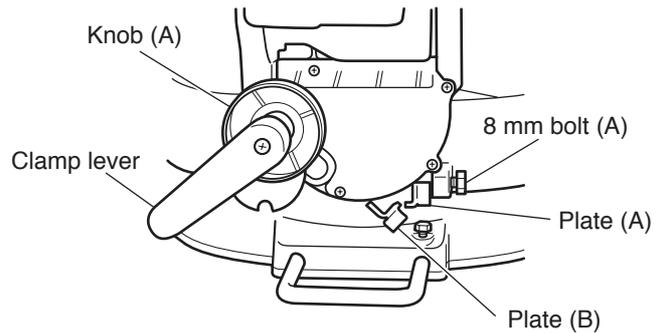

Fig. 15-2
- If there is a malfunction on digital display because of power supply noise, turn the digital display switch OFF and perform the procedures (1) and (2) in 8-5 to reset it.
- The digital display may show a deviated value if the flush surfaces for the bevel angle adjustment bolt are worn (plates (A) and (B) in Fig. 15-2). Instruct the customers to adjust the angle according to section 9-1 in this case.
NOTE: Do not adjust the 8 mm nylock bolt with plates (A) and (B) (Fig. 15-2) pulled.